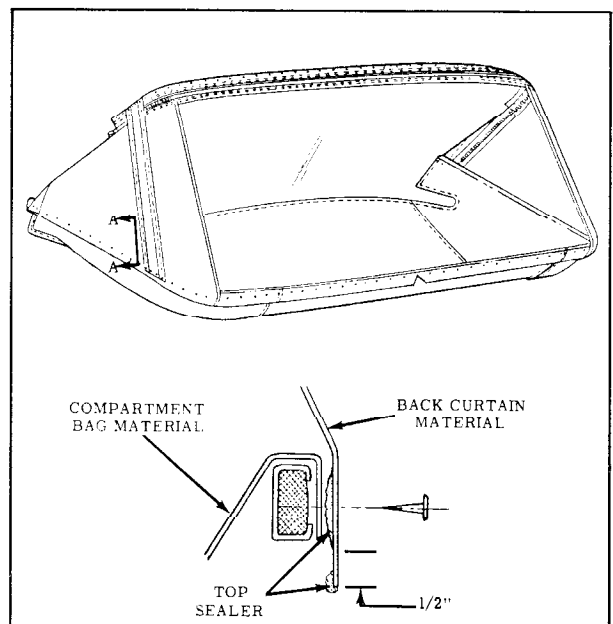

Fig. 15-110 Back Curtain Sealing
3. Place back curtain window assembly on clean covered work bench with exterior (vinyl) surface of back window valance facing down. (Large pliable back window must be handled carefully to avoid possible damage due to scratches, abrasions, etc.). Apply bead of convertible top sealer (nitrile) along lower edge of back curtain material in area which will be tacked to rear and rear quarter trim stick. (View "A-A" in Fig. 15-110)
NOTE: Notch in back curtain vinyl at lower edge indicates centerline of back curtain assembly. (Fig. 15-110) In addition, back curtain lower edge should extend 1/2" below lower edge of trim sticks.
sticks. Turn forward edge of material rearward to form a water barrier. (Fig. 15-110)